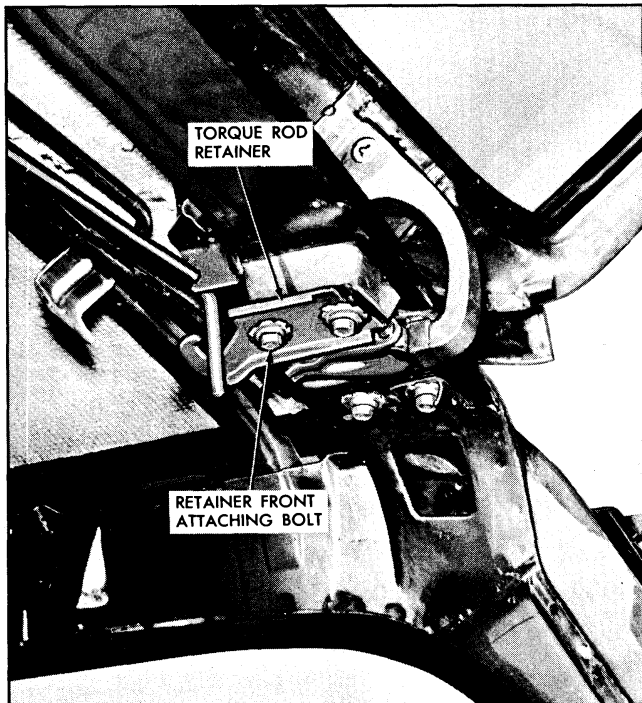

Fig. 15-11 Back Door Hinge and Torque Rod Retainer
2. With aid of a helper, to hold back door, remove hinge-to-back door attaching bolts. (Fig. 15-11).
b. Mark position of torque rod retainers, (Fig. 15-11), at both right and left hinges to facilitate repositioning of retainers in same fore and aft position.
c. Using a suitable length of pipe over end of torque rod, release tension of torque rod from retainer. While tension of torque rod is released from retainer, loosen retainer attaching bolts, (Fig. 15-11); then, release retainer. Loosen the two remaining hinge attaching bolts. Perform this operation at both right and left hinges.